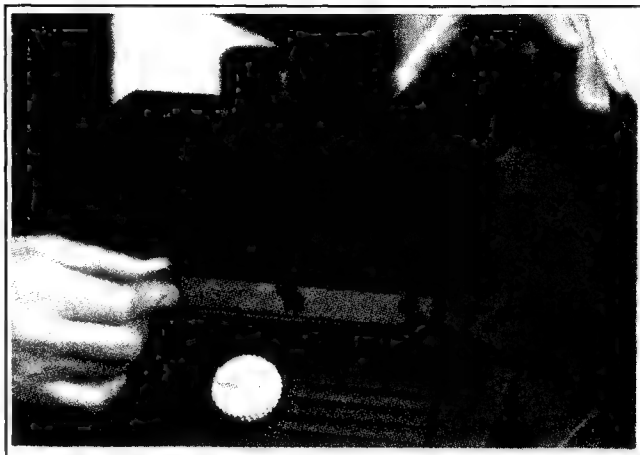

Figure 11-42. Stud Location on Top Mounted Tank - #2 Side.
*NOTE: On engines with top-mounted fuel tanks, the top two are fuel tank mounting studs. See Figure 11-42.
*NOTE: On engines with top-mounted fuel tanks, the top three are fuel adapter studs. See Figure 11-42.